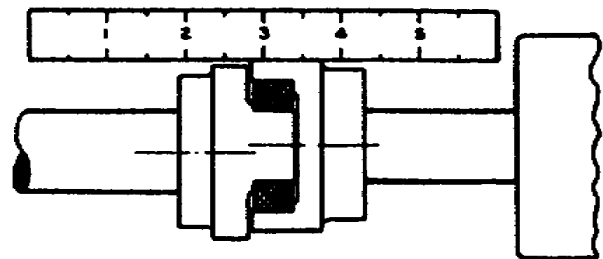

Figure 82. Checking parallel alignment.
(4) Check parallel alignment by laying a straightedge across both coupling rims at the top, bottom, and both sides, as shown figure 82. The unit will be in horizontal parallel alignment when the straightedge rests evenly on both halves of the coupling at each side. In some special services a wide differential will prevail between the operating temperatures of the pump and motor. Adjustment of alignment to satisfy such operating conditions must be governed by the specific application. The vertical difference of the shafts should be measured with a straightedge and feelers. To establish parallel alignment, thin shim stock is placed under the motor base. Occasionally, shims may be required under the pump base.
(5) Remember, alignment in one direction may alter the alignment in another. Check through each alignment procedure after making an alignment alteration.